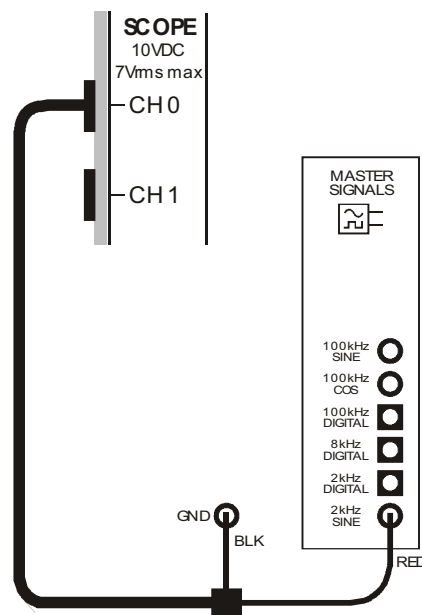

Figure 9
26. Connect the set-up shown in Figure 9 below.